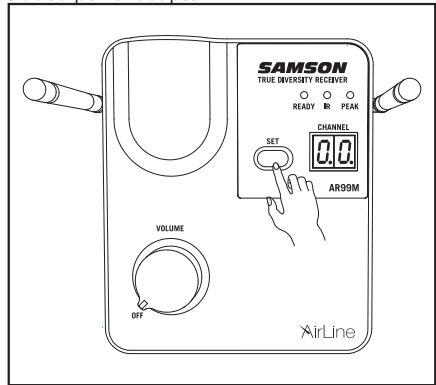

Figure 1
5. Press the SET button for more than 2 seconds (the display will start to flash quickly) on the front of the AR99m receiver to scan for an available channel. Once the optimal channel is selected the receiver will enter IR Set mode. The display will flash slowly in IR Set mode. If you want to set a transmitter to the receiver's currently selected channel, press and hold the SET button for more than 10 seconds (until the display flashes slowly) to enter IR Set mode directly. (figure 1).